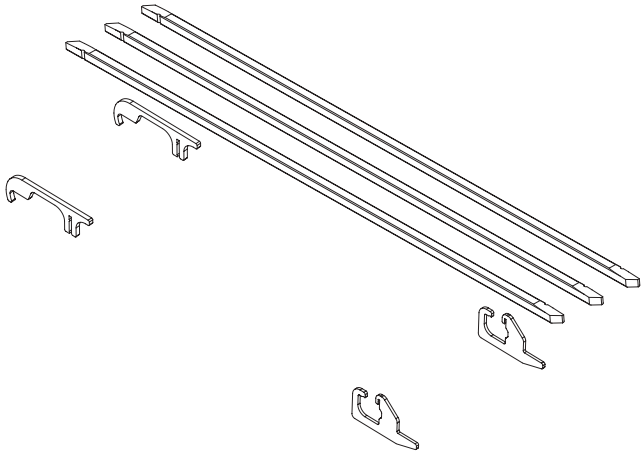

Figure 53
- Place wearstrips, drive tail belt guides, and idler tail return guides (**Figure 53**) in COP tank.